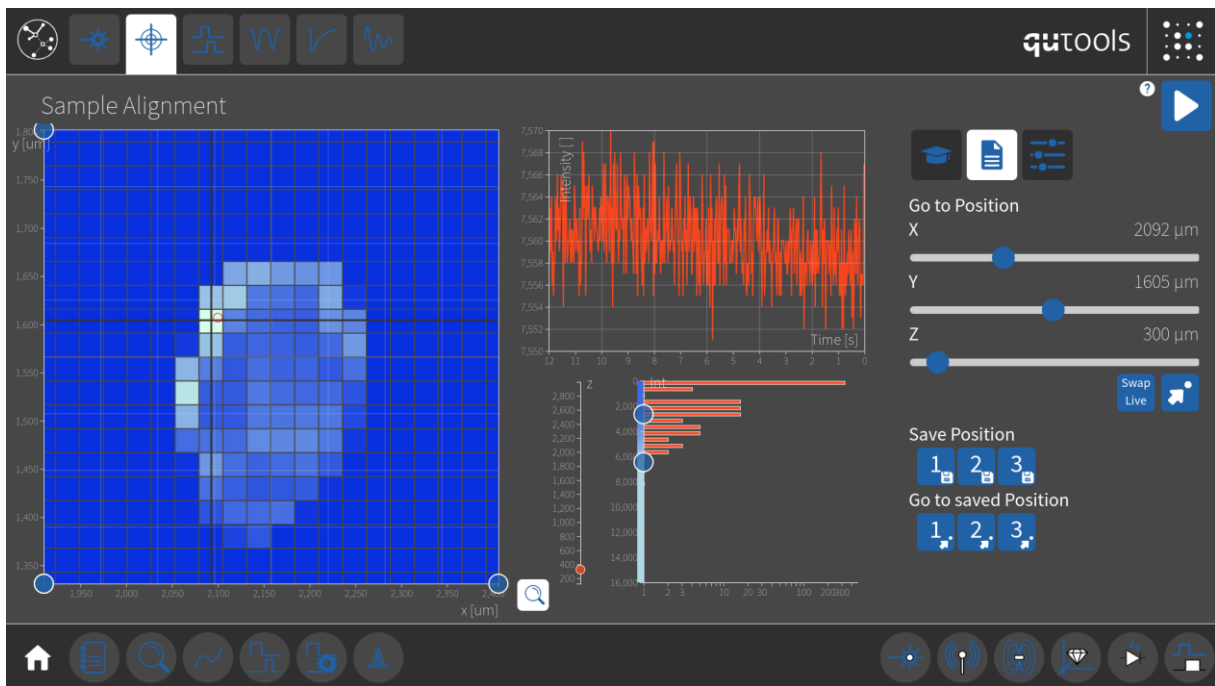

Figure 8 - When zoomed into a detail scan, you can select the best spot using crosshairs, and save a position for the next session.
- You can also select and go to a specific point in the scan using crosshairs. Select the brightest point and tap on the “Go To” Button, see Figure 8. Beware that the crosshairs define only x and y, but the “Go To” button assumes also the z value that is set in the slider. To ensure that you keep your z-Position, you can use the “Swap live” button first.